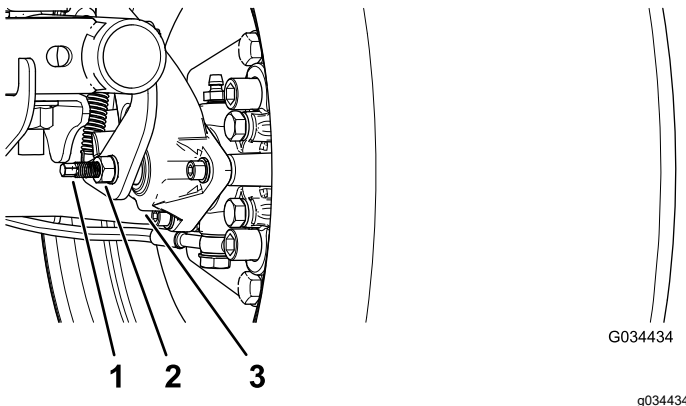

Figure 62
3. Using 2 wrenches, hold the adjusting post on the caliper in place with 1 wrench, and loosen the jam nut 1/4 turn with the other wrench (Figure 62).
4. While holding the adjusting post and the jam nut in place, turn the adjusting post in to tighten (Figure 62).
5. While holding the adjusting post and the jam nut in place, back off 1/4 turn (Figure 62).
6. While holding the adjusting post and the jam nut in place, tighten the jam nut (Figure 62).